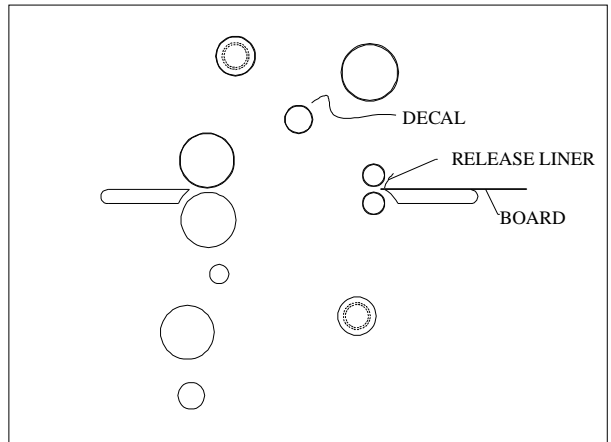

**Figure 33**
1. Load the laminator as illustrated in Fig. 33.